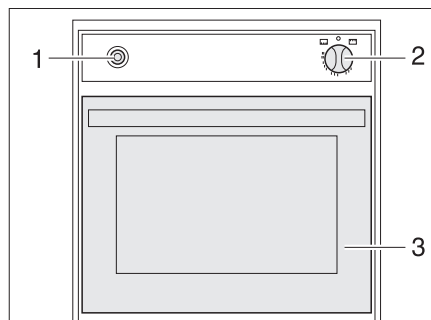

Fig. 314 Gas oven (Spinflo)
- Fully open the oven flap (Fig. 314,3).
- Lightly press control knob (Fig. 314,2) and set to "🔥" (oven) or "🔥 GRILL" (grill).
- Press the control knob (Fig. 314,2) and hold it down for 5 to 10 seconds. Gas will stream into the burner.
- Press the ignition switch (Fig. 314,1) repeatedly until there is a flame.
- Turn the control knob (Fig. 314,2) to "0". The flame fades.